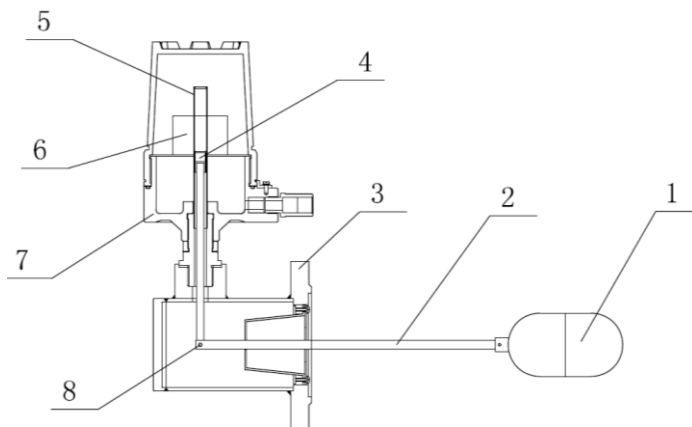

Figure1
2.1 Main Structure of Product -Figure 1